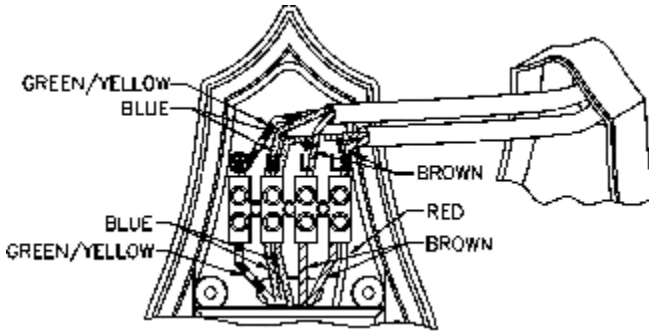

FIGURE 10
- (5) Strip approximately 6-8mm insulating part of the wires from the power cord.
- (6) Connect the BROWN wire (Live wire) to the terminal block "L" mark. Connect the BLUE wire (Neutral wire) to the terminal block "N" mark. Connect the YELLOW/GREEN (Ground wire) to the terminal block "⊕" mark (FIGURE 10).